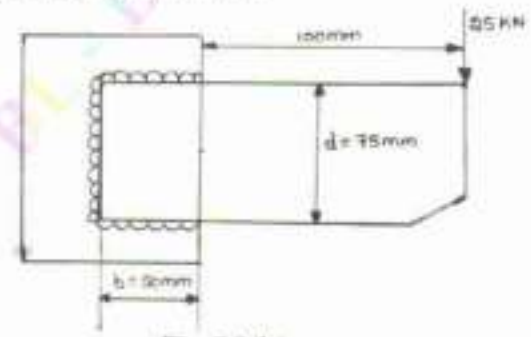

Fig.Q8(b)
b. Determine the size of weld required for an eccentrically loaded weld as shown in Fig.Q8(b). The allowable stress in the weld is 75 N/mm2.